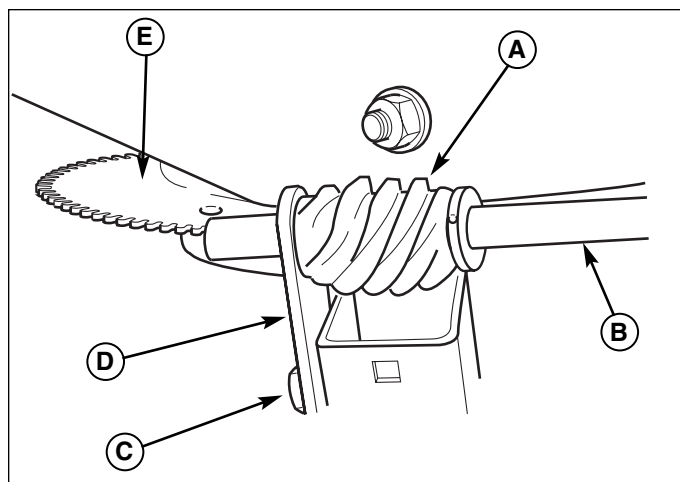

Figure 19. Discharge Control
If the discharge chute is difficult to operate, first lubricate the pinion gear (A, Figure 19) and ring gear (E). If it is still difficult to operate, adjust as follows:
1. Loosen the bolts (C, Figure 19) which hold the pinion gear bracket (D).